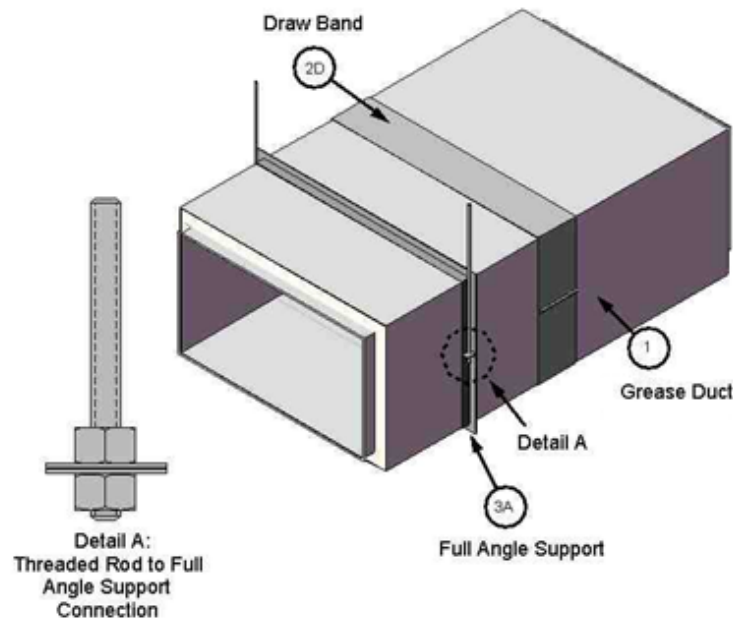

Figure 1. Model GRZA Grease Duct
Reference Figure 1. Install Pre-Fabricated Grease Duct in compliance with the requirements of NFPA 96, the National Building Code of Canada (NBCC), or other
A. **HORIZONTAL SUPPORTS** – Support the Pre-Fabricated Grease Duct (Item 1) using supplied 2 x 2 x 3/16 in. steel, full-angle supports (See Figure 1) (two halves required); 2 x 2 x 3/16 in. steel angle
Place one threaded steel rod on each side of the Pre-Fabricated Grease Duct (Item 1) and fasten to the support member with appropriately sized nuts (see Figure 1, Detail A). Install the rods at a max. of 1 in. from each side of the Pre-Fabricated Grease Duct (Item 1). Space horizontal supports a max. of 12 ft. on center (oc). Reduce the support spacing for larger ducts to ensure that the load on each hangar (set of two threaded rods and support member) does not exceed 500 lb. Alternatively, use manufacturer-supplied, min. 2 in. wide, min. 11 GA, steel Hangar Bands (BHB) as the supporting member, and reduce the max. load per hangar to 420 lb.